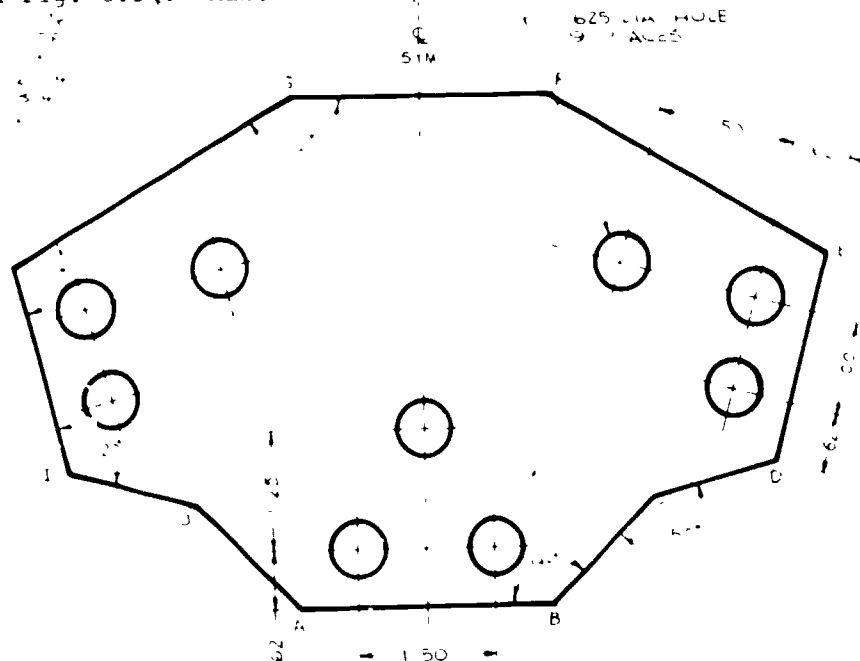

Figure 1.12
4. Make a full scale pencil instrument drawing of the GOSSET in Fig. 1.12. Draw on a 9" x 12" sheet of vellum with a 1/4" border and use title block as shown in Fig. 3.14. Make a diazo print of the finished drawing.